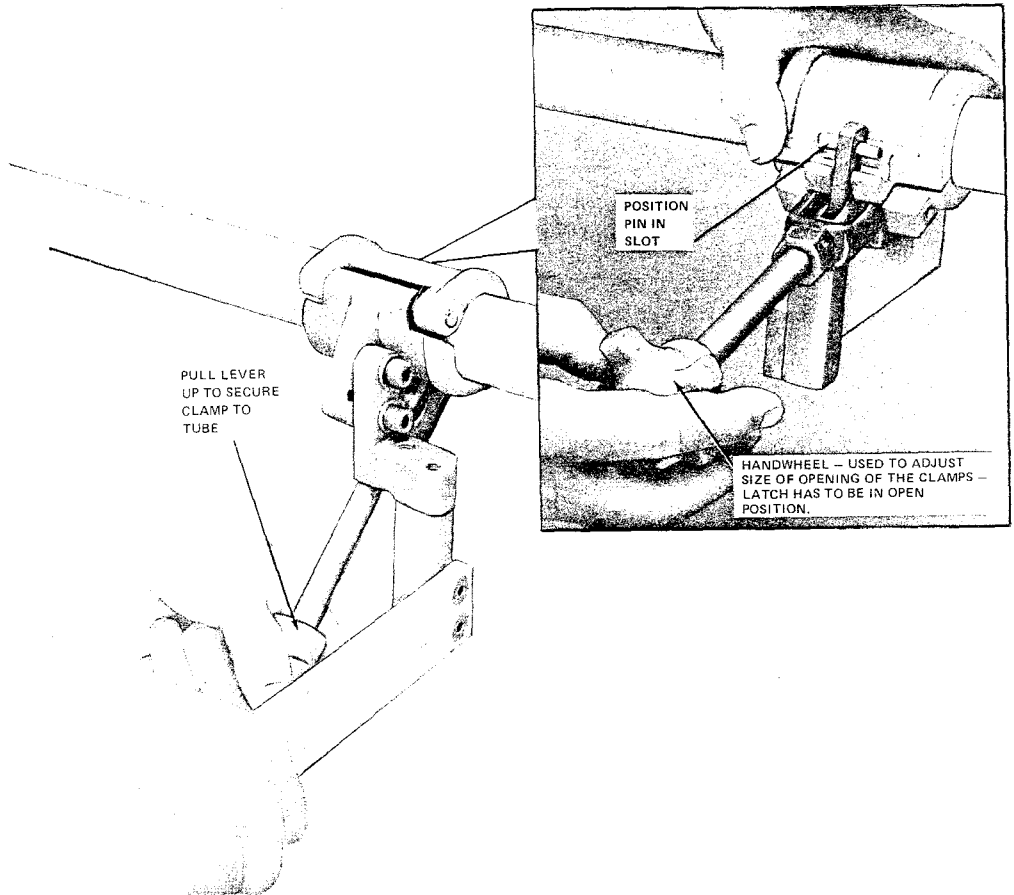

Fig. 20—Installing Traverse Mount Assembly on Support Tube
- 4.06 Attach the traverse mount assembly to the support tube assembly (Fig. 20). Secure clamp by pulling the latch upward. The handwheel